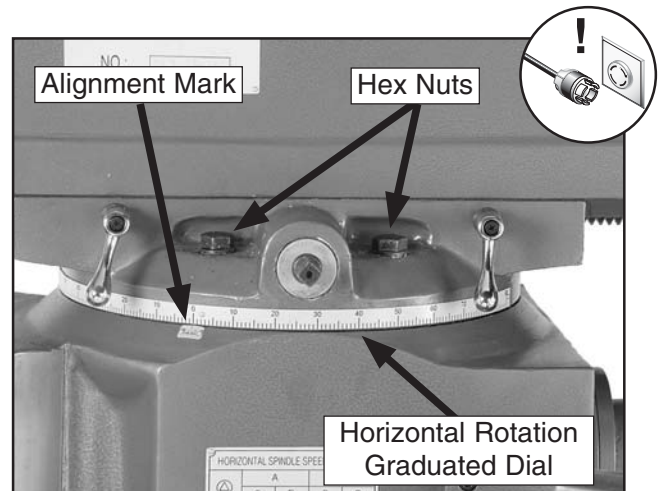

Figure 31. Rotating the vertical spindle head and ram horizontally.
2. Use a 22mm wrench to loosen the four ram mounting hex nuts $\frac{1}{2}$ turn—there are two hex nuts on either side of the ram (see **Figure 31**).